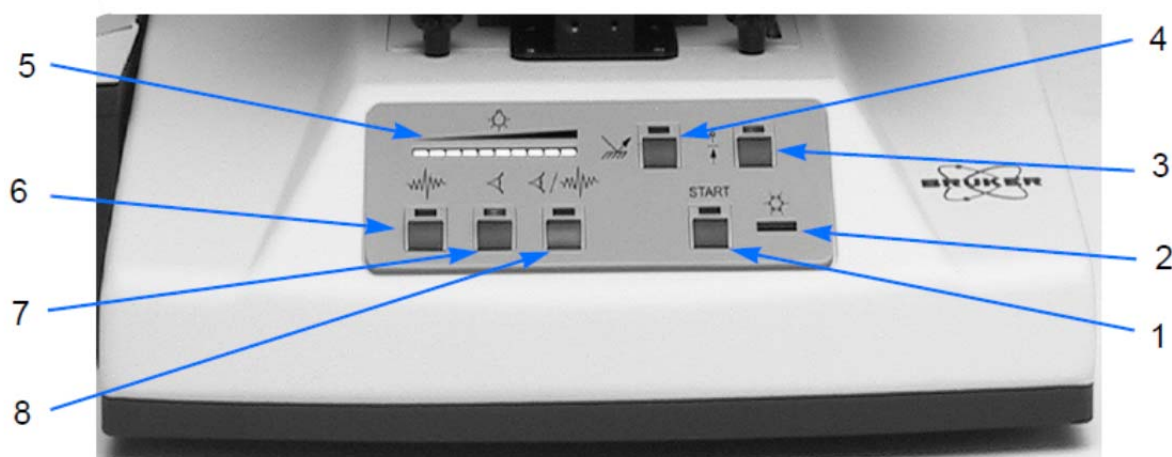

Figure 4: Control Panel
- To fill the detector. Remove the plug on the top of the microscope exposing the detector fill tube. Insert the liquid nitrogen funnel into the tube. Pour from the 1 L Dewar into the funnel. A room temperature detector will take approximately 4 funnels worth of LN2. Try not to overfill the detector; if it is overfilled, LN2 will spill across the top of the microscope, Step back and allow excess to run off without spilling on you. If the detector isn't warm you will have to gauge how much LN2 to add from the fill log. Item number 2 in figure 4 is the detector temperature warning light. This light will be red if the detector is hot and off if the detector is cool.